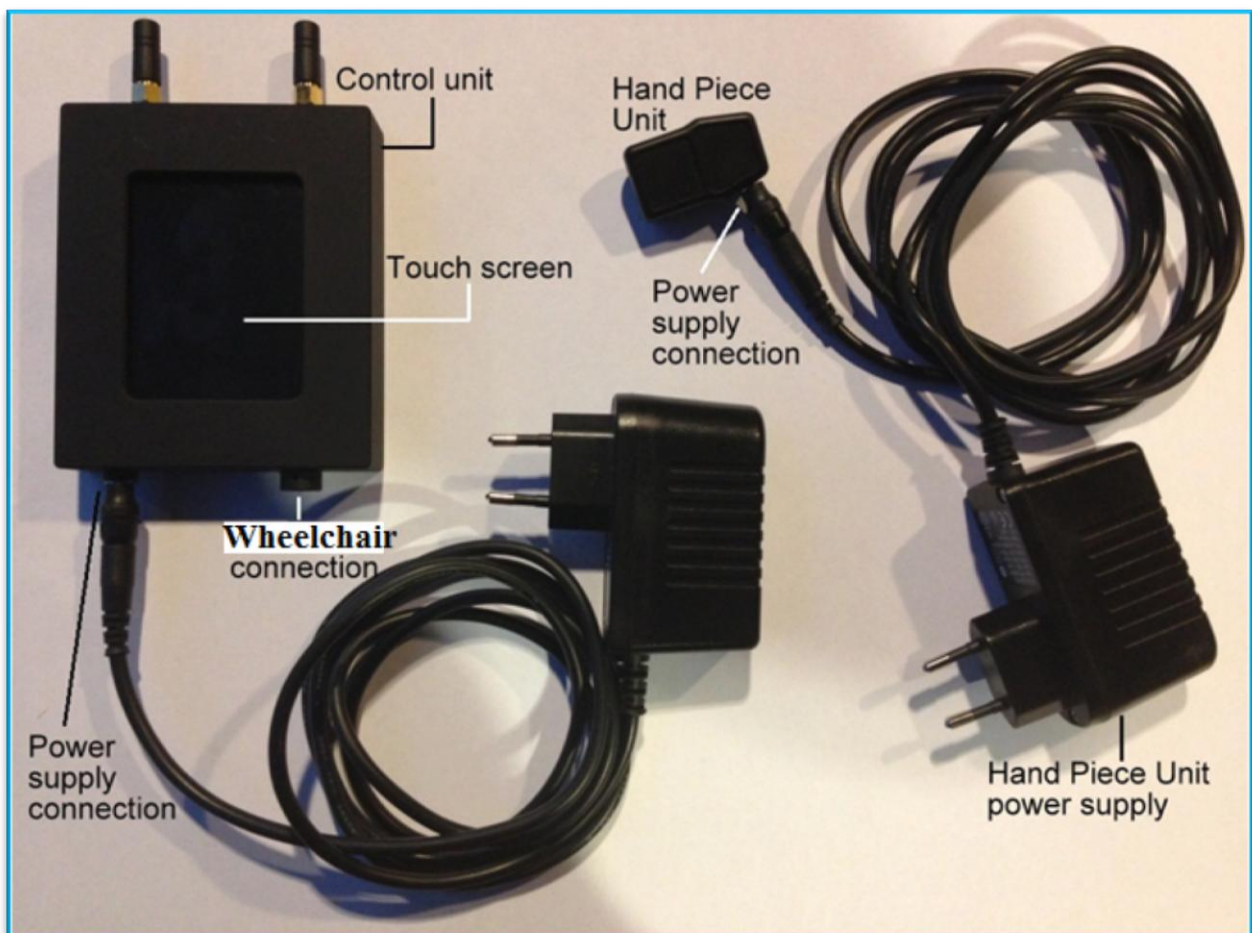

Figure 1 : Ihandle parts and cables.
The Ihandle consists of four parts: An activation unit (AU), a Handpiece Unit (HPU), a Control Unit (CU). The CU and HPU each include a power supply. See Figure 1 for a diagram of the Ihandle, including the activation unit.